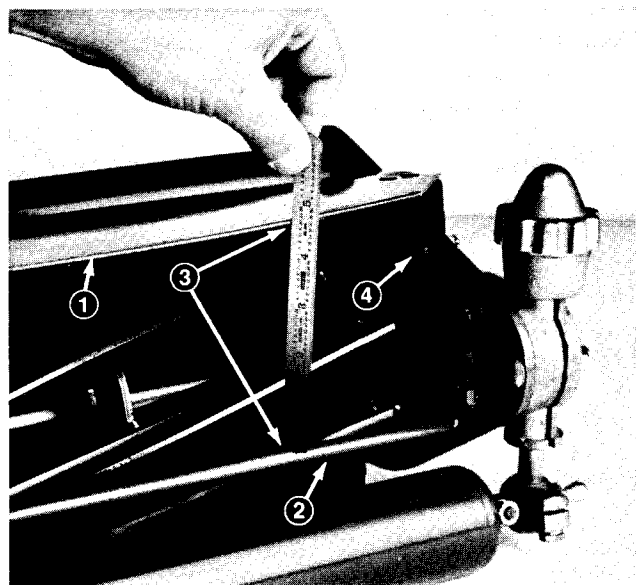

Figure 16
1. Set cutting unit in normal cutting position and measure distance from top of front crossbar to shield at each end of cutting unit (Fig. 16).
2. Height of shield from crossbar for normal cutting conditions should be 4 $\frac{3}{4}$ inches. Loosen cap-screws and nuts securing shield to each side-plate, adjust shield to correct height and tighten fasteners (Fig. 16).